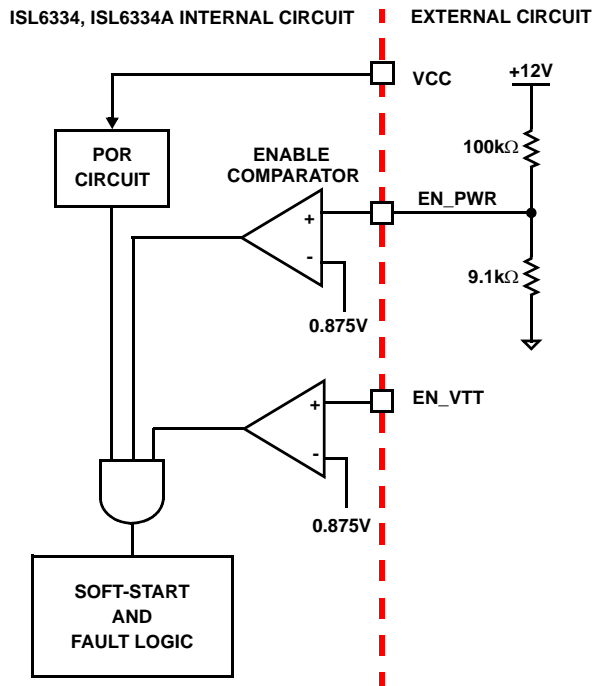

FIGURE 8. POWER SEQUENCING USING THRESHOLD-SENSITIVE ENABLE (EN) FUNCTION
2. The ISL6334, ISL6334A features an enable input (EN\_PWR) for power sequencing between the controller bias voltage and another voltage rail. The enable comparator holds the ISL6334, ISL6334A in shutdown until the voltage at EN\_PWR rises above 0.875V. The enable comparator has about 130mV of hysteresis to prevent bounce. It is important that the driver reach their POR level before the ISL6334, ISL6334A becomes enabled. The schematic in Figure 8 demonstrates sequencing the ISL6334, ISL6334A with the ISL66xx family of Intersil MOSFET drivers, which require 12V bias.